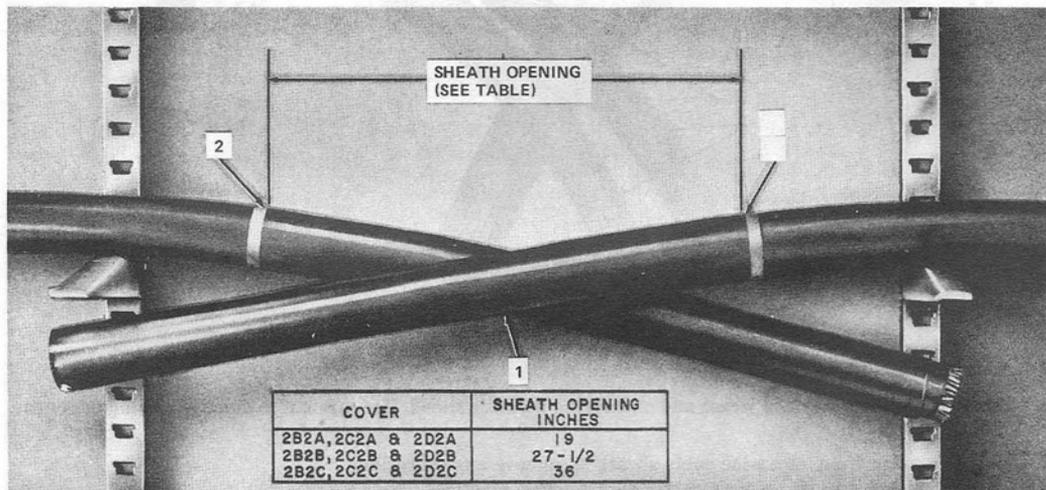

Fig. 11—Mark Cable Sheath
- 3.01 Prepare cable sheath as illustrated in Fig. 11 and 12.